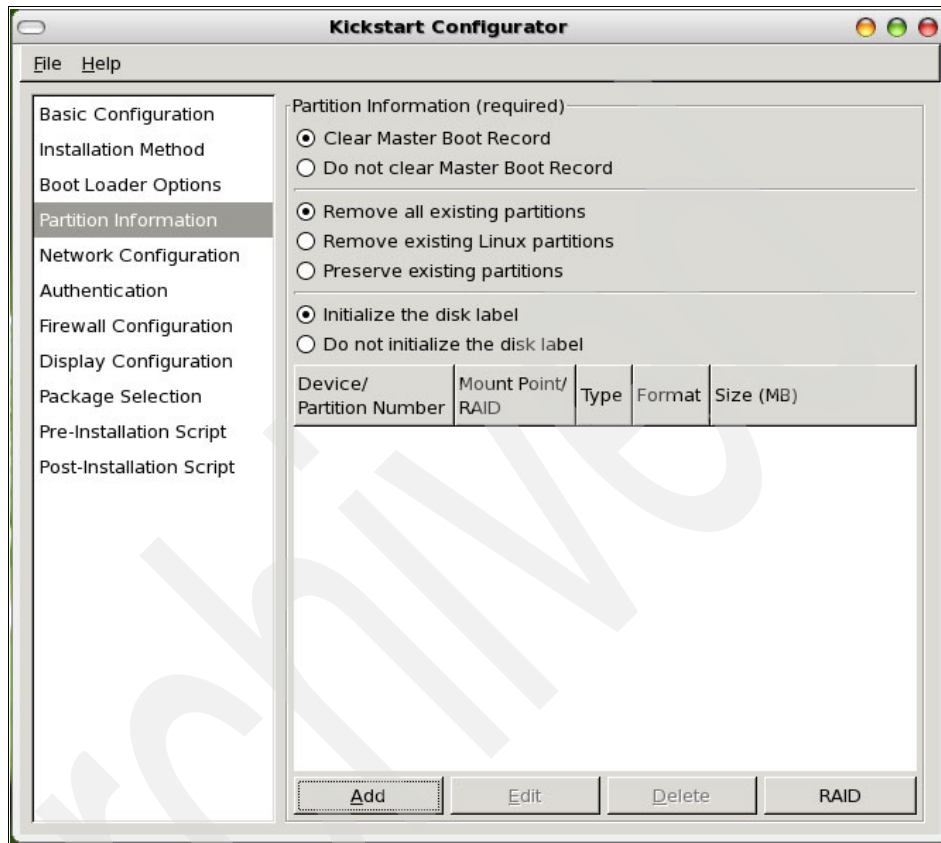

Figure B-3 Partition Information panel (©2008 Red Hat, Inc.)
4. The next editable panel is the Partition Information panel, shown in Figure B-3. Press **Add** to create a partition. The tool will help you select the mount point, file system type, and partition size.